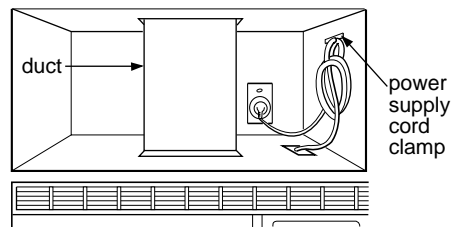

Figure 33
5. Roof venting installation: Install ductwork through the vent opening in the upper cabinet. Complete the venting system through the roof according to the method needed. See Figure 33. See PREPARE THE VENTING SYSTEM, STEP 2 on the page 8. Use caulking to seal the exterior roof opening around the exhaust cap. See Figure 6 on page 8.
6. Use the power supply cord clamp to bundle the power supply cord. Install the power supply cord clamp, using a screw as shown in Figure 33, to inside of the cabinet.